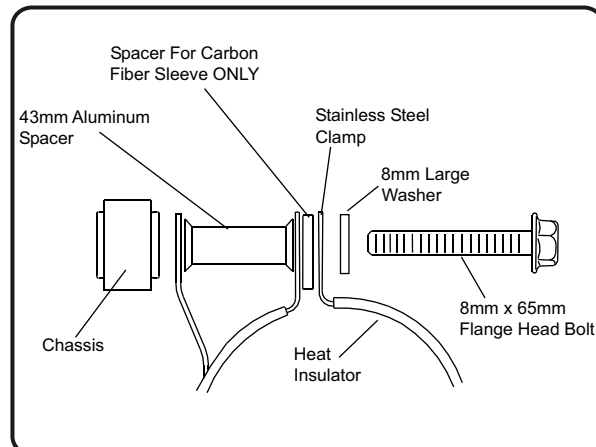

Fig.5
- 7 Mount muffler clamps to chassis using supplied bolts, washers and spacers. (See Fig.5&6)
NOTE: Muffler with a Carbon Fiber sleeve **MUST** use supplied 4mm spacers between the ears of the muffler clamps (See Fig. 5)